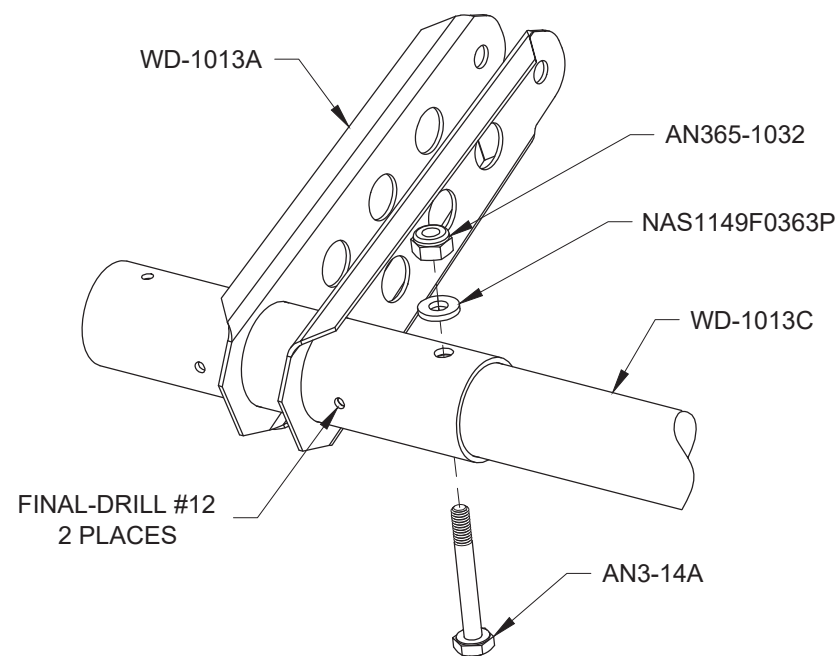

FIGURE 4:
Step 4: Bolt the WD-1013A Flap Crank to the WD-1013C Flap Torque Tube as shown in Figure 4. Remove the clecos. Drill as per the call-out. Install a second set of hardware like the first in this hole.